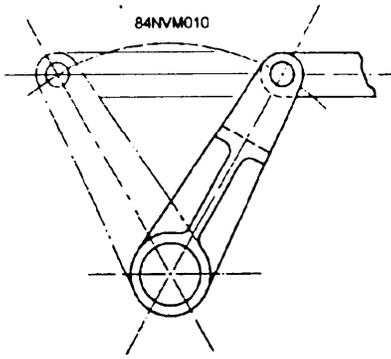

Figure 13-10.—Phantom view showing alternate position.
**PHANTOM VIEW.**—Phantom views are used to indicate the alternate position of parts of the item drawn. It may also show repeated detail or the relative position of an absent part. Figure 13-10 shows a phantom view of a part in the alternate position. Notice the type of line (the part to the left of the figure is made up of one long line and two short dashes) used to represent the item in its original position.